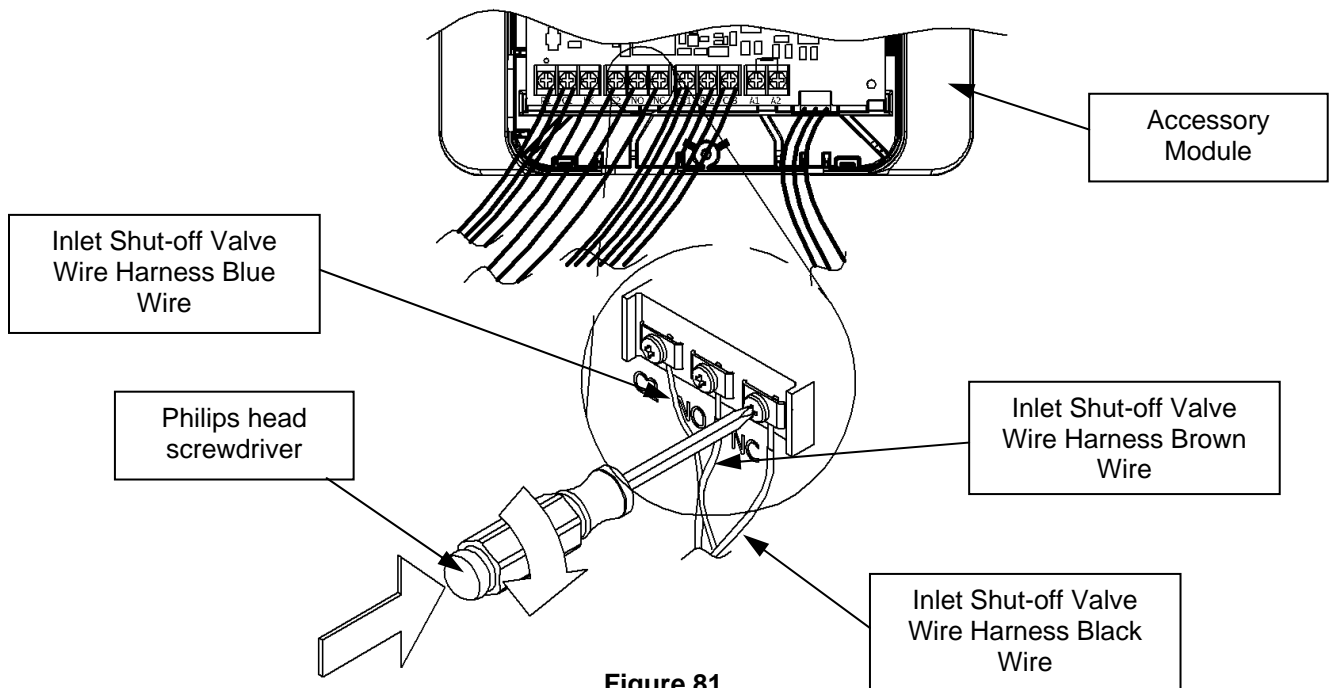

Figure 81
Step 14: Tighten the screw labeled "NC." This is shown in Figure 81.